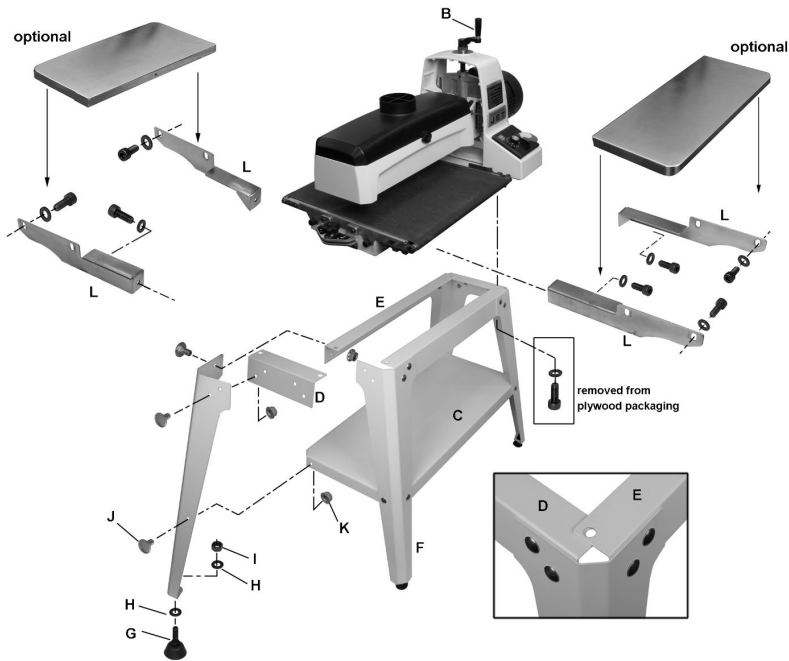

Figure 6-3: Assembly
(Refer to Figure 6-3. If further clarification is needed, consult parts breakdown at back of this manual.)
1. Assemble legs (F) to outside of Short Rails (D) using carriage bolts (J) and flanged lock nuts (K). *Finger tighten only.*
2. Assemble Long Rail (E) on inside of legs and on top of Short Rails (D). *Finger tighten only.* NOTE: Flange of Long Rail overlaps flange of Short Rail. See inset, Figure 6-3.
3. Turn stand upside down. Install shelf (C) into legs using carriage bolts and lock nuts.
5. Insert leveling foot (G) into bottom hole of leg with flat washers and hex nut.
- Install infeed and outfeed brackets (L, Figure 6-3) to the threaded holes in sander base with M8x16 socket head cap screws and flat washers. Make sure left and right brackets are oriented as shown. The brackets should be flush against the base. NOTE: Long brackets mount to front (infeed); short brackets to rear (outfeed).